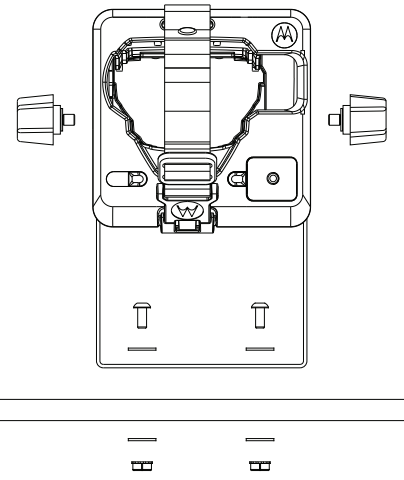

Figure 1 Installing the Vehicle Charger
- Insert the unit into the bracket, and install the washer and threaded knob into the housing, as shown in Figure 1.